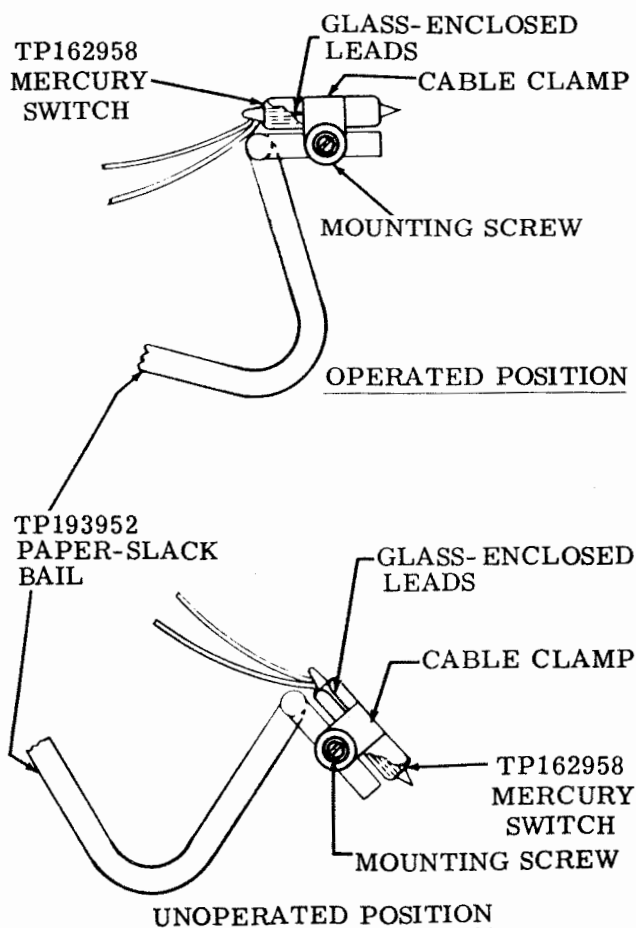

Figure 7 - Operation of the Mercury Switch on Paper Winder (Left Side View)
- (2) Loosen the screw securing the TP193953 motor housing to the winder and remove the housing.
- (3) Remove the two resistor leads from the terminal block assembly and tape the resistor leads from interference with other wiring and moving parts.
- (4) Adjust the winder mercury switch (Figures 7 and 8). Replace the TP193953 motor housing and tighten the retaining screw.
- (5) Secure the two TP195256 hangers to the paper winder using four TP195180 rubber bumpers, TP2191 lockwashers, and TP6345 nuts.
- (6) Looking at the rear of the cabinet, hook the right hanger over the top ledge of the removable panel. Tilt the lower end of the
Note: The paper winder is factory adjusted for operation with 28 or 35 Set. For 32 or 33 Set application, it will be necessary to re-make the Mercury Switch Position Adjustment (Figures 7 and 8).
3.05 The operation of the paper winder ON-OFF switch should be checked to determine whether the slack bail and its associated mercury switch activate the winder spindle. If necessary, check the mercury switch position adjustment (Figures 7 and 8).